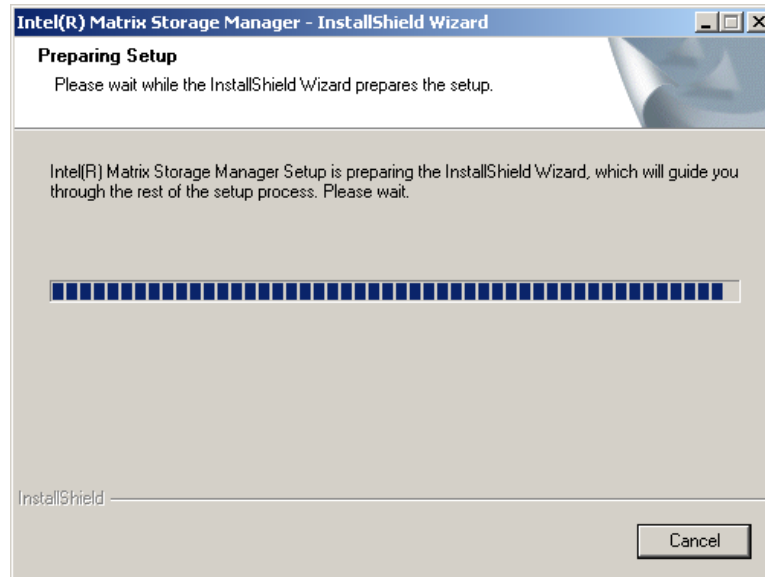

Figure 7-33: InstallShield Wizard Setup Screen
Step 5: Figure 7-33 shows the **InstallShield Wizard** preparing to guide the user through the rest of the process.